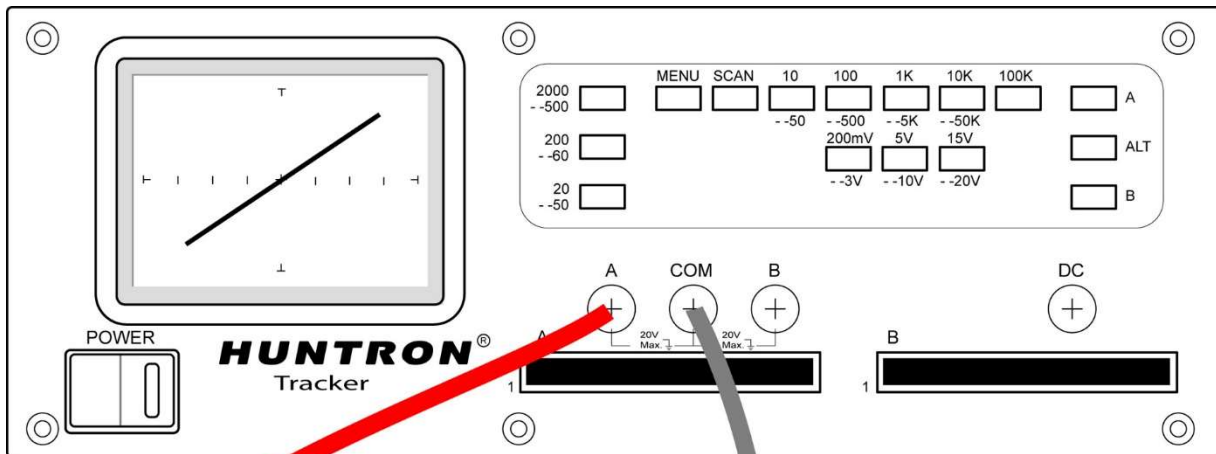

Figure 2-3
- Insert your Huntron Microprobes into the shrouded banana jacks marked Channel A (or Channel B) and Common as shown in Figure 2-3. Typically, the red Microprobe lead will be used in the Channel A (or B) connection and the black Microprobe used in the Common connection.